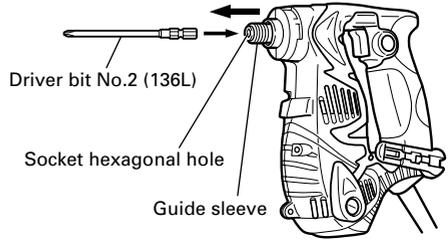

Fig. 9
2. Attaching and removing the bit (Fig. 9)